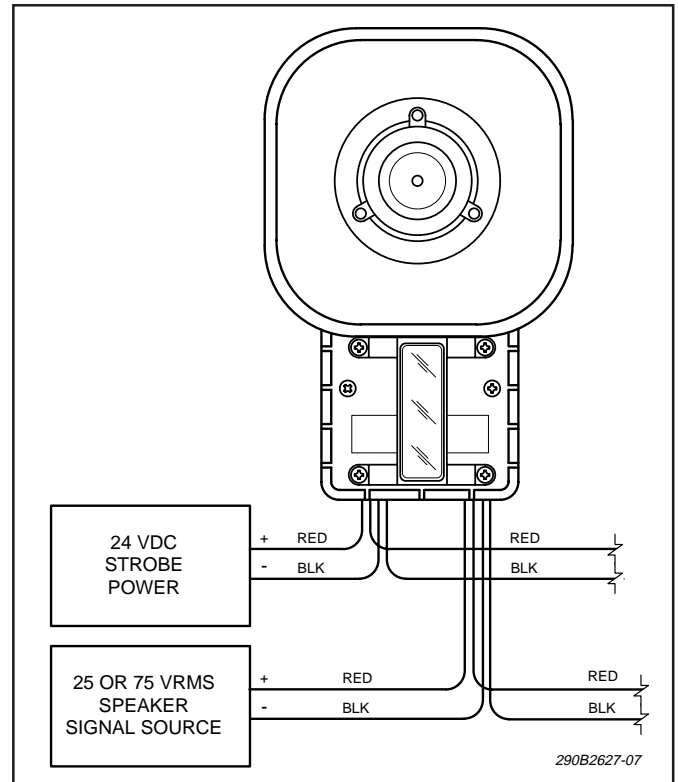

Figure 2. Typical Installation Wiring.
a. See figures 2 and 3. Connect the audio common (-) leads to the speaker's common terminal and audio positive (+) leads to desired wattage terminal.
a. See figure 2. Connect the strobe light's red (+) lead to the power source positive (+) lead. Connect the strobe light's black (-) lead to the power source negative (-) lead.
b. See figures 2 and 3. Connect the audio common (-) leads to the speaker's common terminal and audio positive (+) leads to desired wattage terminal.